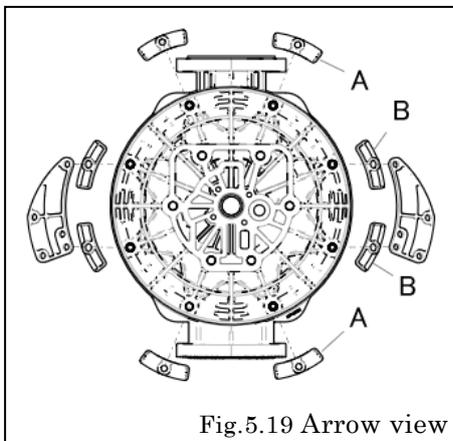

Fig.5.19 Arrow view
- Fig.5.19 shows the standard positions of the out-chambers and the valve body assembly. But those positions can be freely changed, depending on how and where the pump will be installed.